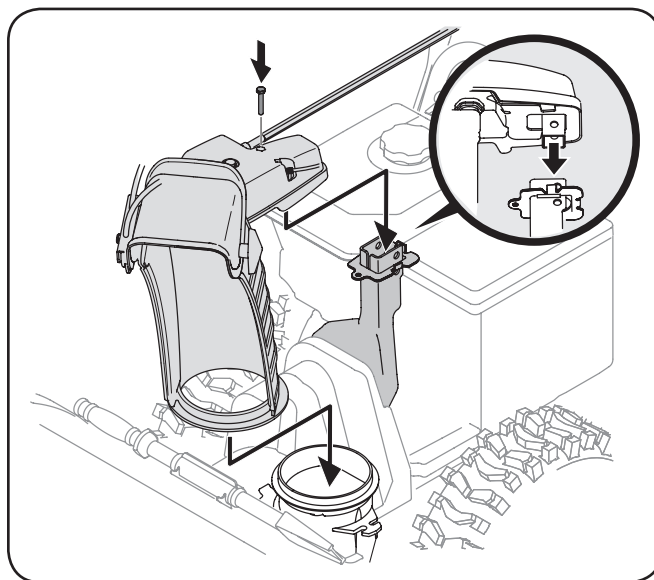

Figure 3-7
3. Place chute onto chute base with the chute control rod positioned under the handle panel. Reinstall the hex bolt previously removed *but do not secure with wing nut at this time*. See Fig. 3-7.